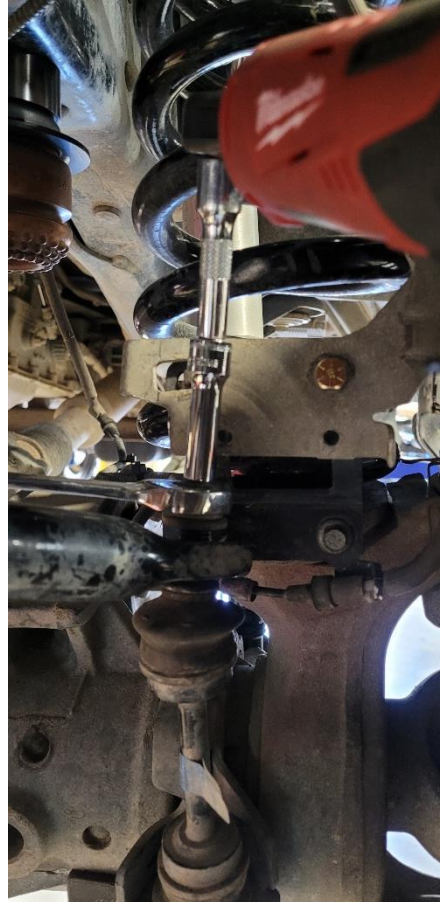

Figure 1. Removing the End Link Nuts.
1. Loosen and remove both lower and upper end link nuts. Push the Swaybar up and out of the way. You may need to loosen the Swaybar attachment nuts on the frame. If the Synergy brake line relocation brackets are already installed, unbolt and move them out of the way. **See Figure 1.**